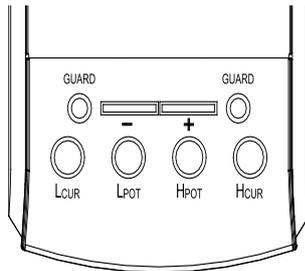

Figure 4
- a When using square terminals , the square terminals and  $L_{CUR}/L_{POT}/H_{POT}/H_{CUR}$  terminals hang in the air (shown in figure 4);